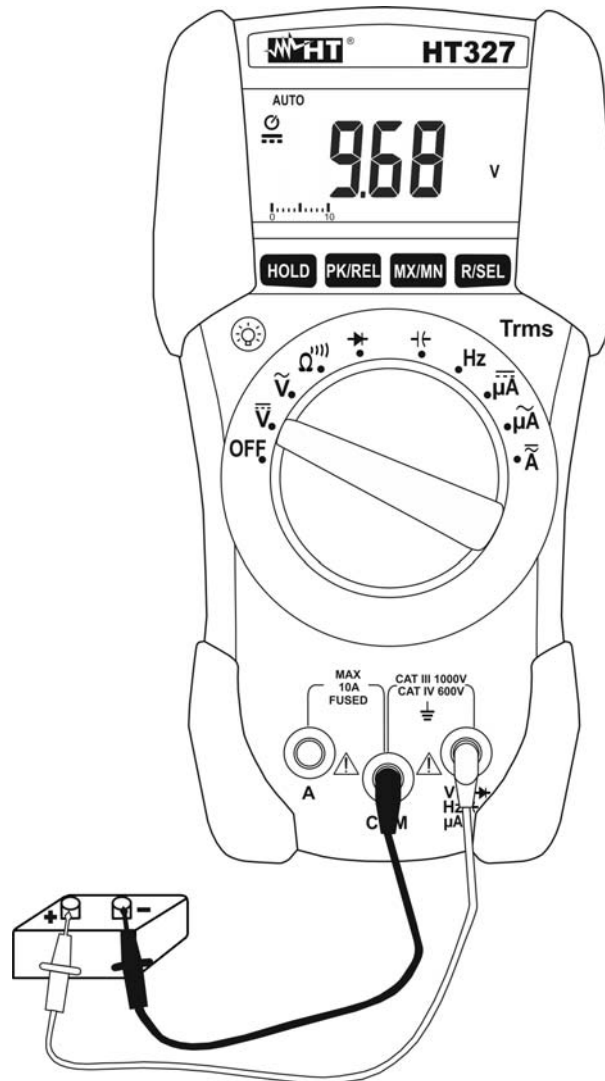

Fig. 2: Using the meter for DC Voltage measurement
4. Connect the red and black test leads to the positive and negative poles of the circuit under test respectively (see Fig. 2). The voltage value is displayed.